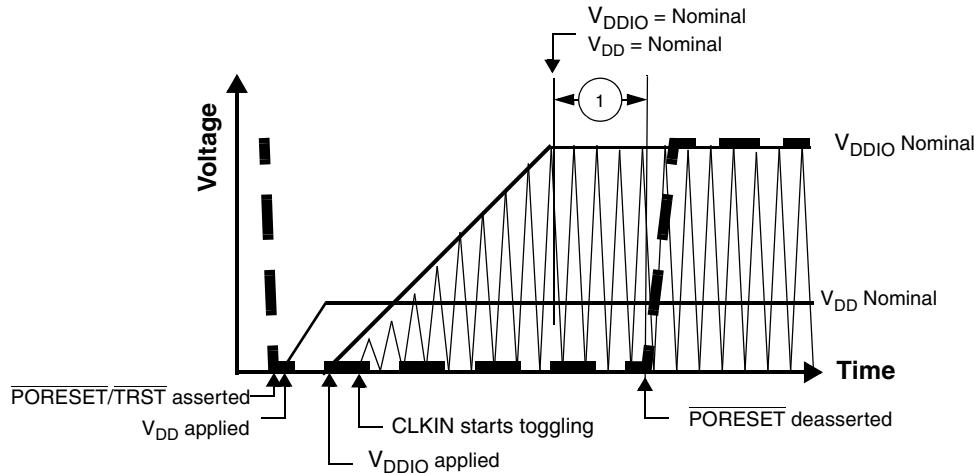

Figure 33. Supply Ramp-Up Sequence with V_{DD} Ramping Before V_{DDIO} and CLKIN Starting With V_{DDIO}
- CLKIN should toggle at least 32 cycles before PORESET deassertion to guarantee correct device operation. The 32 cycles should only be counted from the time after V_{DDIO} reaches its nominal value (see timing 1 in Figure 33).
Figure 33 shows a sequence in which V_{DDIO} ramps-up after V_{DD} and CLKIN begins to toggle with the raise of V_{DDIO} supply.